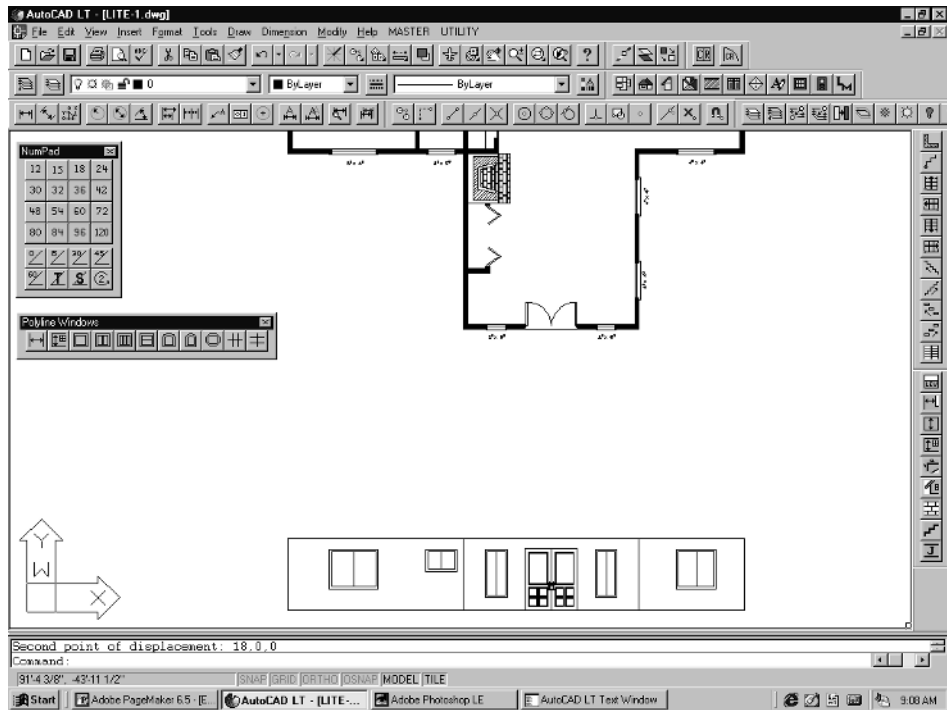

Figure 6-73
9. The elevation door menu will pop back up. Select the **Make Double Door** button to change the single door into a double door. As soon as you select the button, you will be prompted to *Select objects*. Pick on the new elevation door. The second prompt will say *Select objects: First point of mirror line: _ins of*. Slide your cursor over the door. When you see the “glyph” light up in the lower corner of the door, pick with your left mouse button. The double door will be drawn, as shown in Figure 6-73.